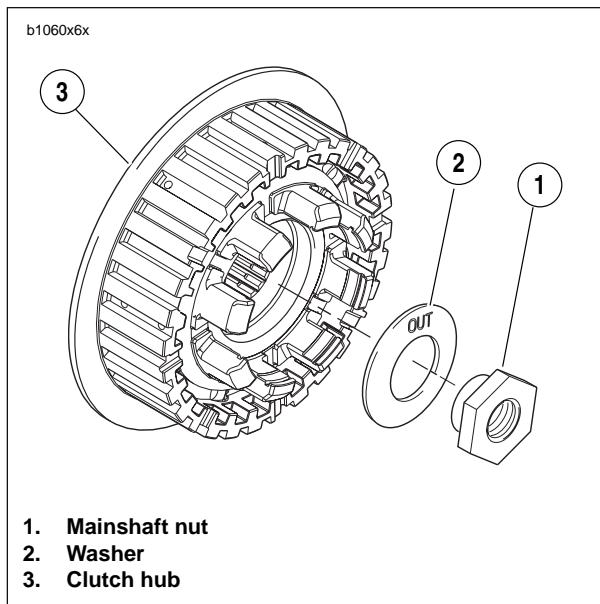

Figure 6-35. Mainshaft Nut and Washer
See Figure 6-35. Washer must be installed with the word "out" facing the mainshaft nut or transmission may be damaged.
6. See Figure 6-35. Install mainshaft washer (2) and nut (1).
- b. Place washer (2) on mainshaft with the word “out” facing away from clutch hub.
7. Install nut (left-hand threads) (1). Tighten to 70-80 ft-lbs (94.9-108.5 Nm). Remove SPROCKET LOCKING LINK.